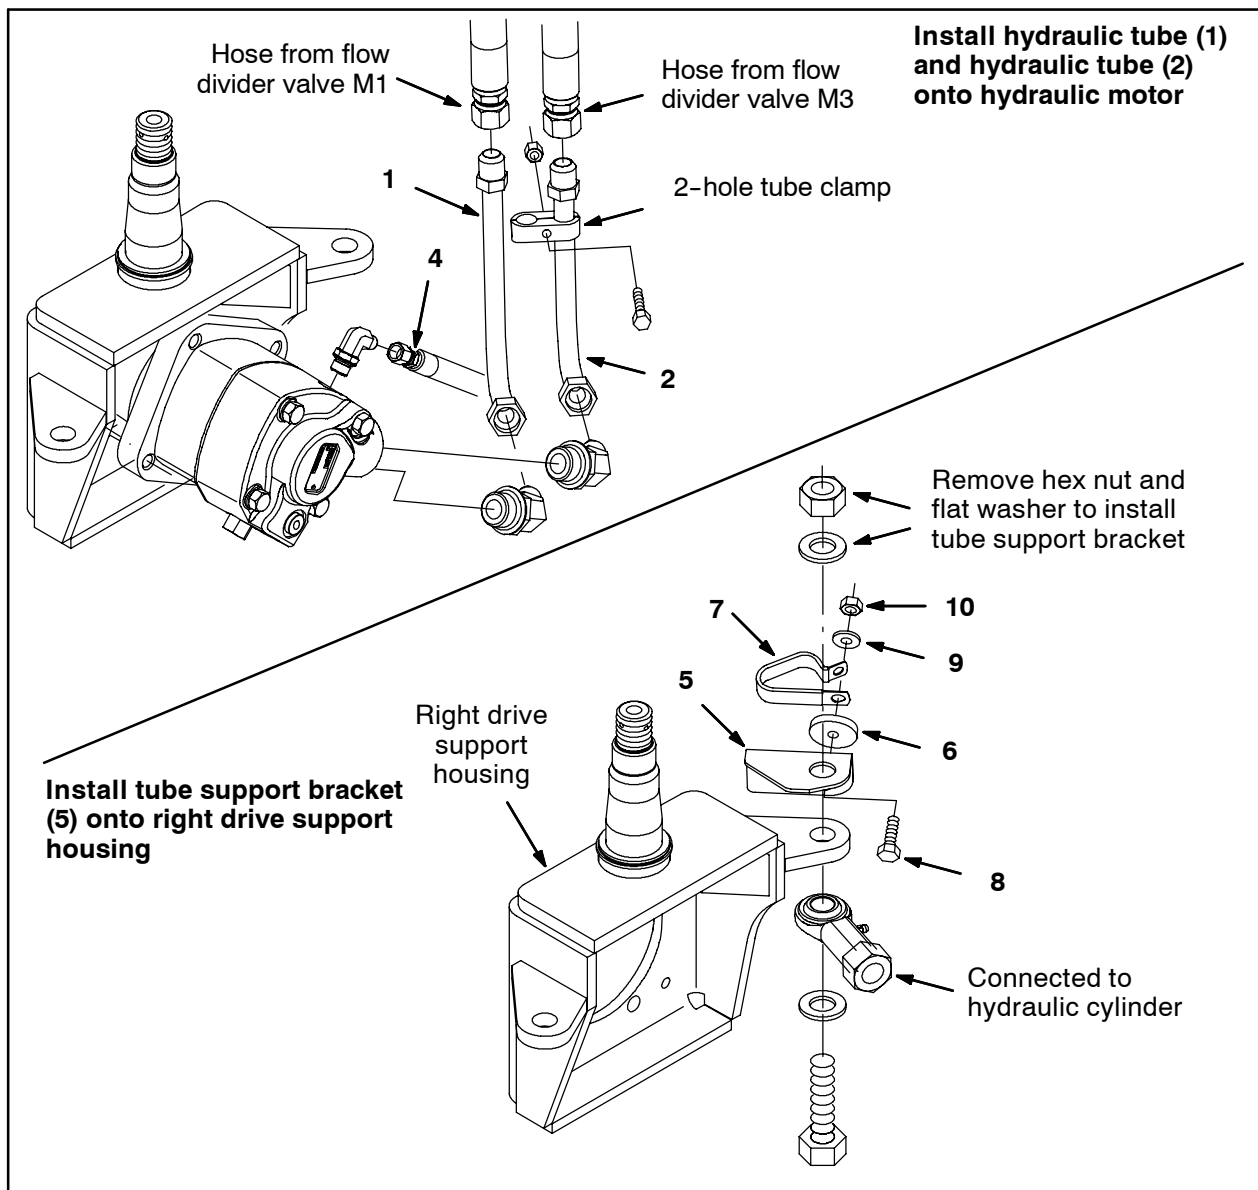

FIG. 4
6. Route the 51" hydraulic hose (4) to the right wheel drive motor and connect the hose to the motor. Refer to Fig. 4.
7. Install the 2-hole tube clamp onto the hydraulic tube (2). Refer to Fig. 4.
8. Install the new hydraulic tube (2) onto the hydraulic motor and connect the hose from flow divider valve port M3 to the hydraulic tube. Refer to Fig. 4.
9. Install the hydraulic tube (1) onto the machine and connect the hose from flow divider valve port M1 to the hydraulic tube. Refer to Fig. 4.
10. Position the 2-hole tube clamp onto the hydraulic tube (1) and secure the clamp onto both tubes. Refer to Fig. 4.
11. Remove the hex nut and washer holding the hydraulic cylinder assembly to the right drive support housing, slide the tube support bracket (5) onto the hex screw, and reinstall the hex nut and washer. Refer to Fig. 4.
12. Insert the hydraulic hoses attached to the hydraulic tube (1) and hydraulic tube (2) into the cable clamp (7). Refer to Fig. 4.
13. Use the hex screw (8), spacer (6), flat washer (9), and hex nut (10) to install the cable clamp (7) onto the tube support bracket (5) and secure the hoses. Refer to Fig. 4.